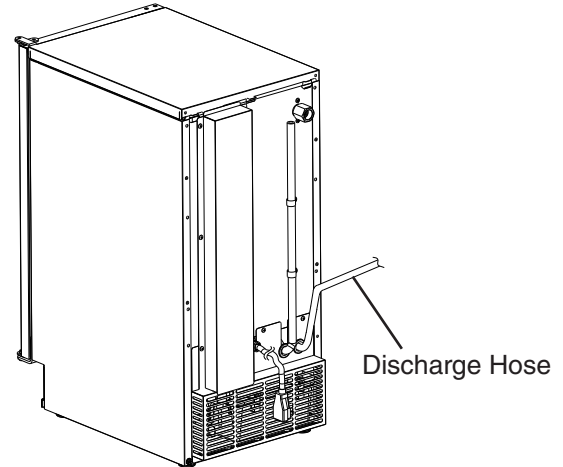

Fig. 49
7. Pour another 24 to 30 oz. [710 to 890 ml] of water into the ice machine’s ice storage bin, then completely restrict the discharge hose while the drain pump is operating. See Fig. 49. Pour more water into the ice machine’s ice storage bin until the ice machine turns off. The drain pump will continue to operate. Check for leaks.